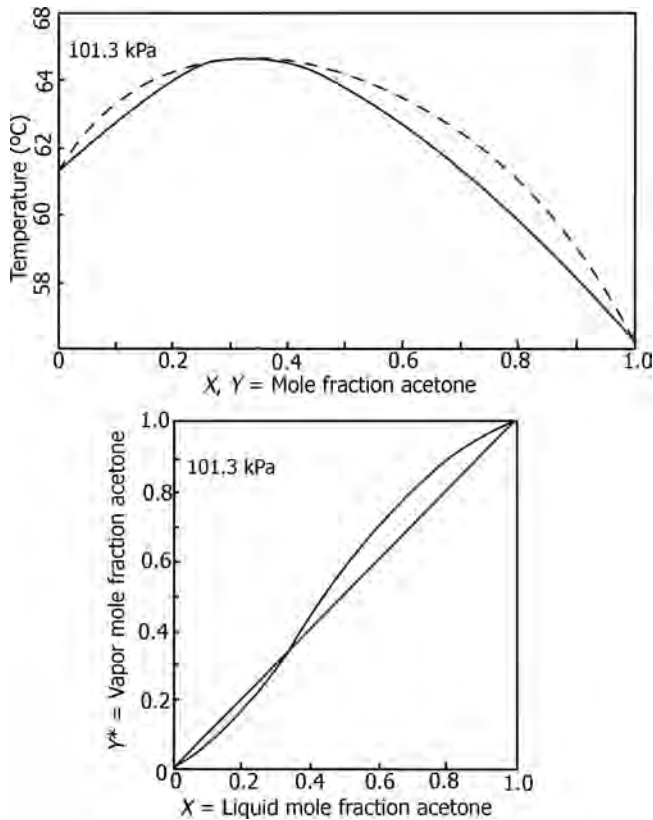

FIGURE 17.29 T - x - y and x - y diagrams for acetone–chloroform system at 101.3 kPa pressure.
- Maximum boiling azeotropes: Acetone–chloroform. Azeotropic composition is 0.64. Azeotropic temperature is 339.12 K (Figure 17.29).